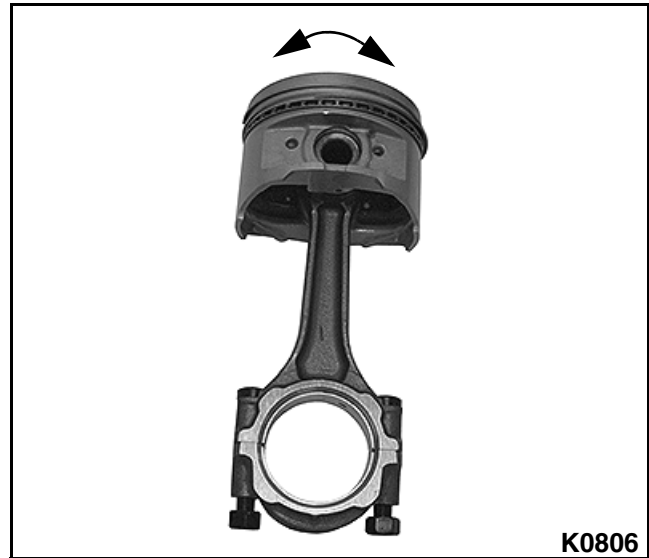

Figure 3-206
1. Move the piston to check for smooth movement. See Figure 3-206.